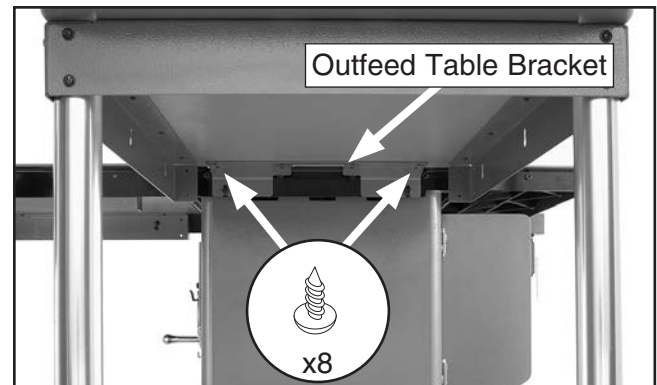

Figure 23. Outfeed table fastened to rear rail.
15. Attach front outfeed table bracket to outfeed table with (8) M4 x 16 tap screws (**see Figure 23**), and then repeat **Steps 8-11** to install the feet, support legs, and shelf end plate on the outfeed table.